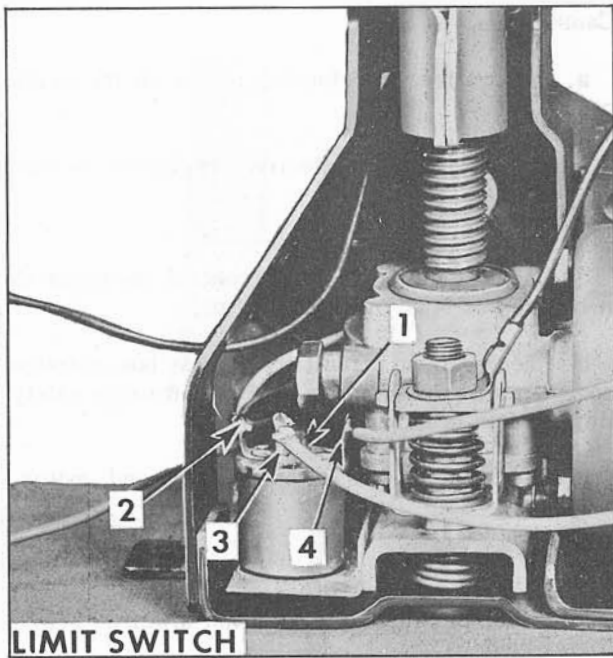

Fig. 17-94 Checking Current at Limit Switch
- a. Ground one light tester lead and connect other lead to white wire terminal (#1) of limit switch, Fig. 17-94.
a. Ground one lead of light tester and connect other lead to the red (2), orange (3) and green (4) terminals of limit switch. Check each terminal individually, Fig. 17-94.